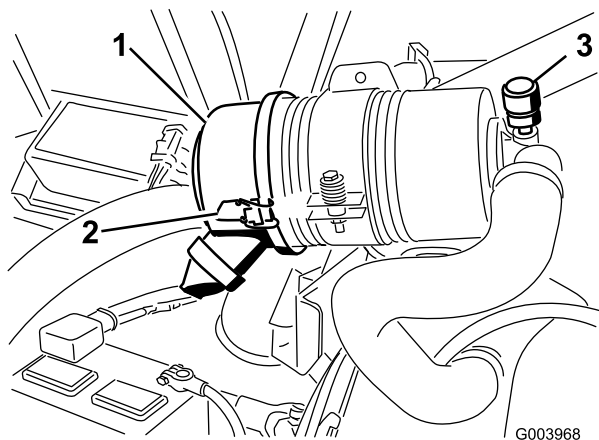

Figure 35
Service the air cleaner filter only when the service indicator (Figure 35) requires it. Changing the air filter before it is necessary only increases the chance of dirt entering the engine when the filter is removed.
1. Release the latches securing the air cleaner cover to the air cleaner body (Figure 35).